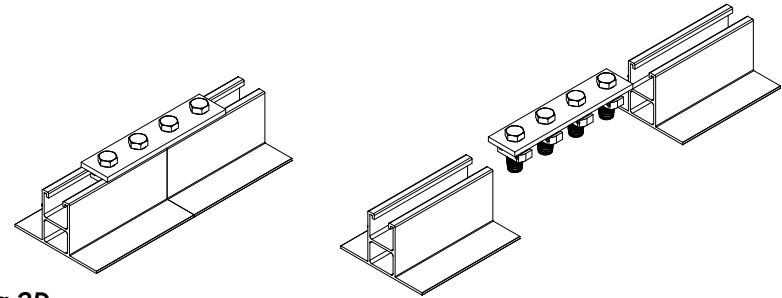

Fig 3D
- 3.6** At locations where beam ends meet, connect the beams using the provided splice plate, bolts, and channel nuts (**Fig 3D**).